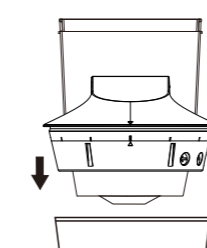
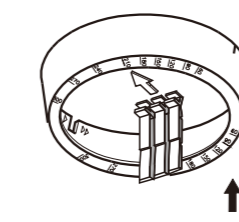

FIG. 21
FIG. 22
4.5.1 Fixing lens shield: Take off the decorative frame of the detector head and insert the lens shield into the slot of decorative frame as following illustration (See FIG. 21 & FIG. 22). Then put the decorative frame back to the right position of the detector head.